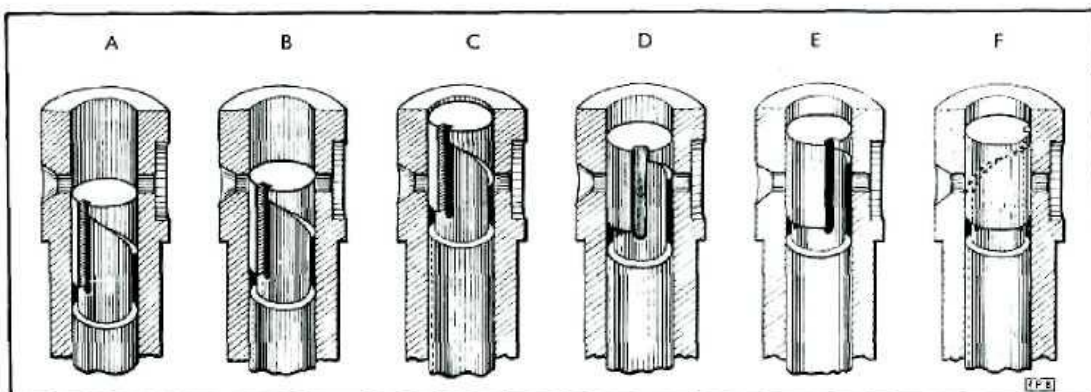

Fig. D.9—Positions of Plunger in Barrel.
Fig. D.9 shows how the upper part of the pump plunger is formed. Observe that an annular groove is cut in the plunger. The lower edge of this groove is level, or horizontal, the upper edge is helical. In addition there is a vertical slot cut right to the top of the plunger and running into the annular groove.
The first sketch in Fig. D.9, shows the working end of the plunger and barrel with the fuel port in the latter, which, it should be remembered, is in communication with the fuel gallery (W), of the pump. The plunger is shown at the bottom of its stroke with the cam at its bottom dead centre.
Oil continues to flow until the helical upper edge of the groove in the pump plunger uncovers the port. When that happens communication is established between the oil above the plunger and that in the gallery via (a) the vertical slot, (b) the annular groove, (c) the port in the pump barrel. (See Fig. D.9).
This is the position in the sketch C of Fig. D.9.
In the sketches A, B and C of Fig. D.9, the plunger is turned to one extreme position with the vertical slot just clear of one of the two port holes in the pump barrel. In that position the helical edge of the circular groove is at its lowest point and, so far as the port in the barrel is concerned the maximum quantity of oil is delivered. That is the setting of the plunger for starting the engine.